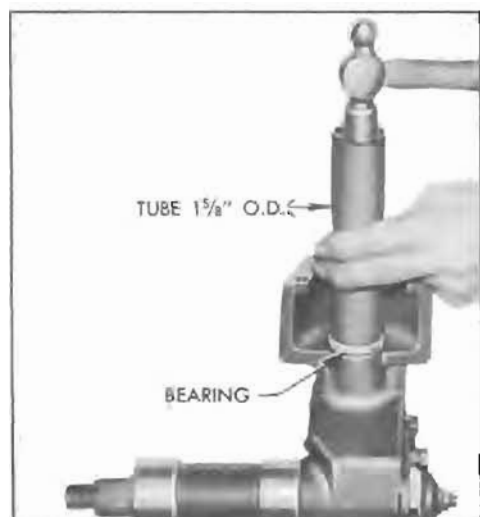

Figure 7-13—Installing Control Shaft Lower Bearing
5. Inspect oil shedder and control shaft bearing in gear housing. If bearing is of doubtful condition replace it, using a square-ended heavy-walled tube $1\frac{5}{8}$ " outside diameter to drive new bearing squarely into housing. See figure 7-13. Use care when installing new bearing as hard shifting of control lever will result if this bearing is damaged.